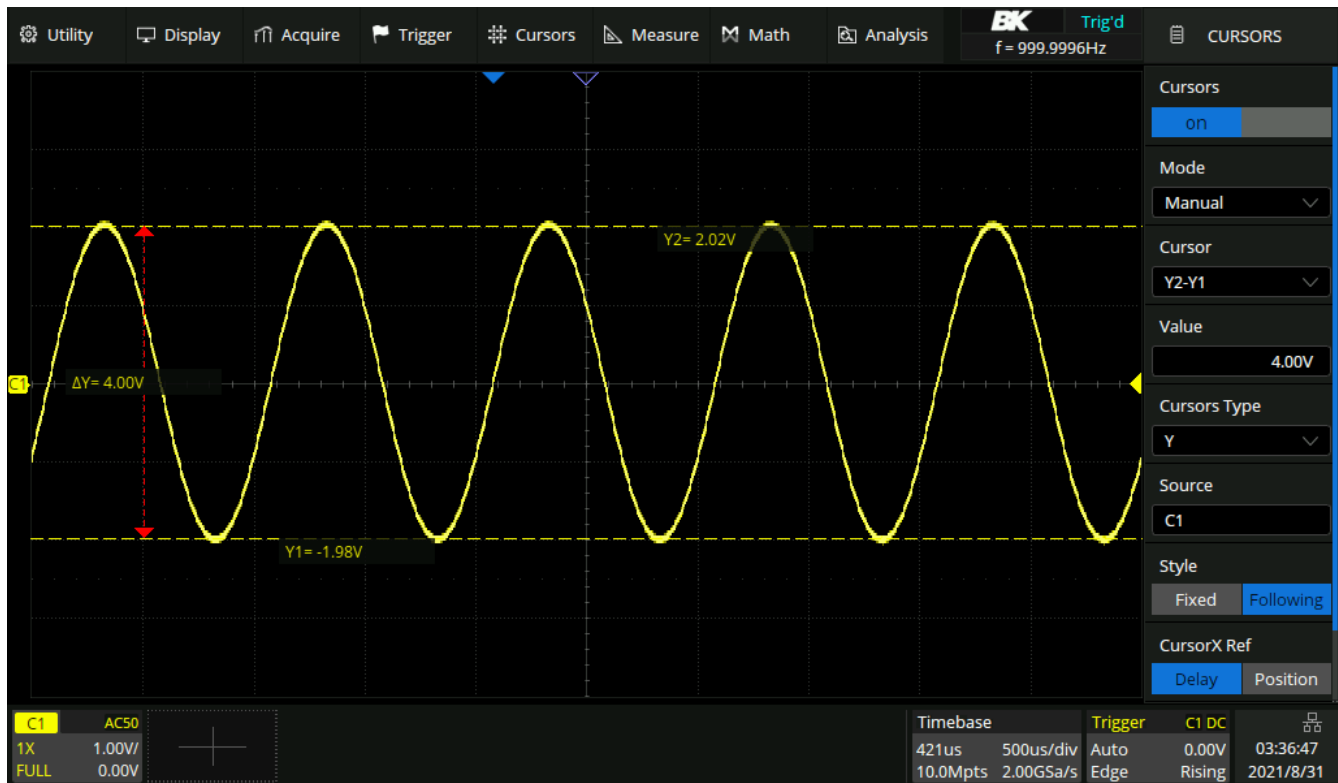

Figure 11.5 Y Cursors
Use the **Universal Knob** to set the Y1 and Y2 cursor values and the values are displayed in the cursors box along with the difference between Y1 and Y2 (Y). (See figure 11.5)